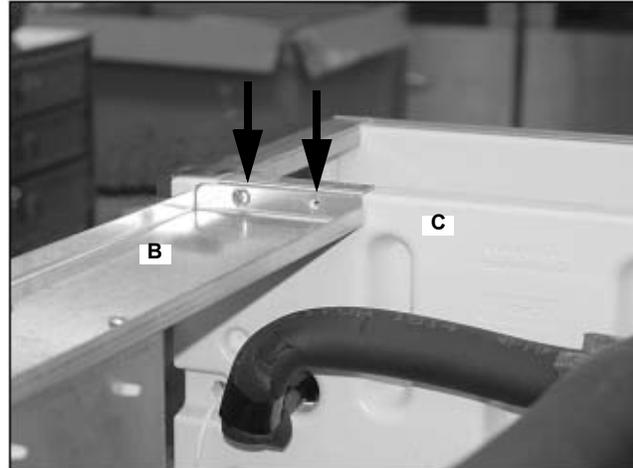

Figure 47.
50. Attach the support brace (B) to the evaporator bulkhead (C) with 2 Phillips head screws (Figure 47).